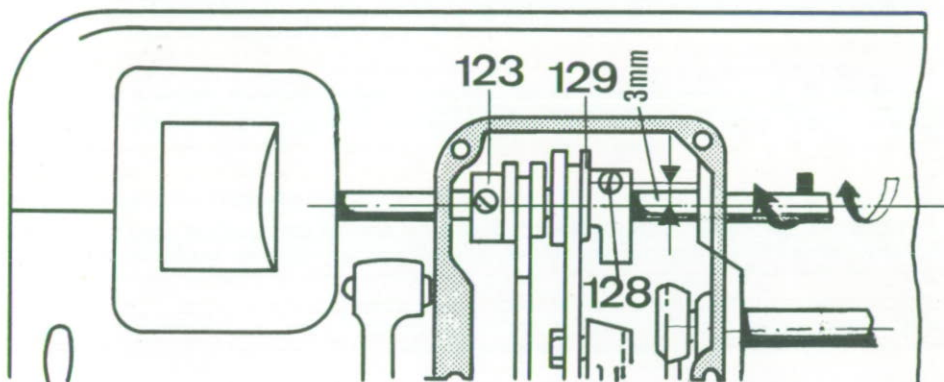

Fig. 36
The feed dog advance is properly set when the first screw (128) of the advance eccentric (129), seen from the direction of motion, is half a screw diameter in front of the second advance eccentric screw (123). (Fig. 36).